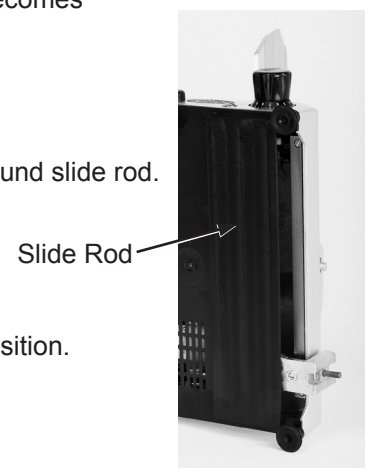

Figure 13-1
3. Put several drops of Globe oil on the round slide rod (Fig. 13-1) towards the top of the rod.